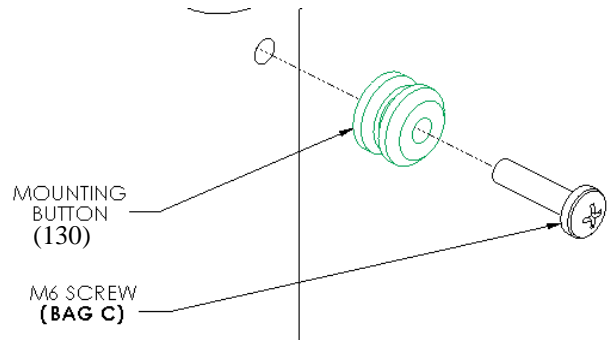
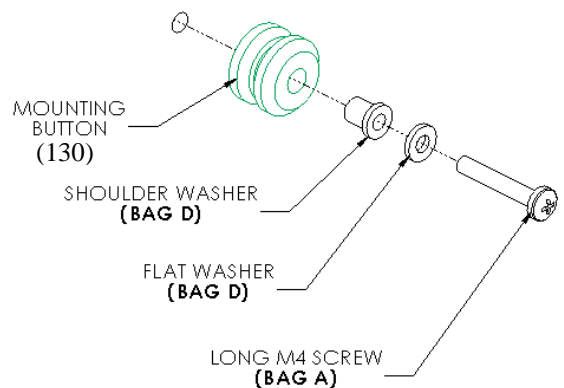
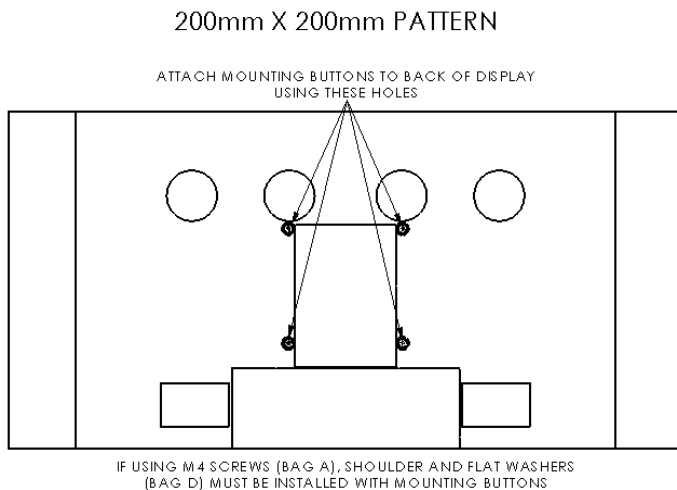

Figure 11. Attach Mounting Buttons to Display Using M6 Screws
Figure 12. Attach Mounting Buttons to Display Using Shoulder Washers, Flat Washers, and M4 Screws
Figure 10. Display with 200mm x 200mm Hole Pattern
1. Select the appropriate method, listed below, to attach the four mounting buttons (see Figure 10) to the back of your display:
- As shown in Figure 10 and Figure 11, use four M6 screws (Bag C) to attach the four mounting buttons (150) to your display.
- As shown in Figure 10 and Figure 12, use four shoulder washers (Bag D), four flat washers (Bag D), and four M4 screws (Bag A) to attach the four mounting buttons (150) to your display.